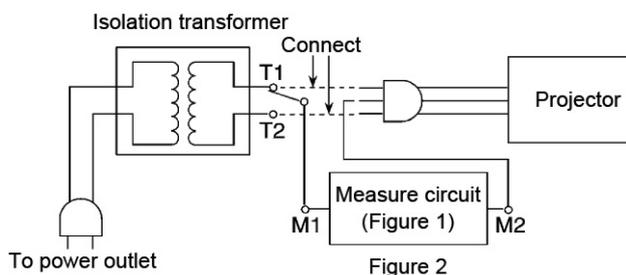

Figure 2
2. Connect the circuit as figure 2 shows. Plug the power cord into an electrical outlet.
3. Connect M1 to T1 as figure 2 shows, and measure the voltage.